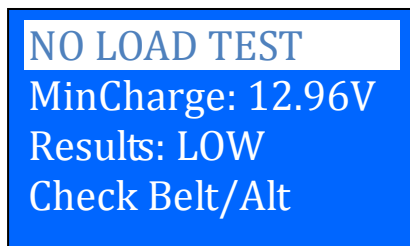

Figure 56
7. If either minimum or maximum charging volts are not within the voltage range limits then it will display one of the screen as below (Figures 56 & 57) and it will prompt you to check the charging system for the fault.